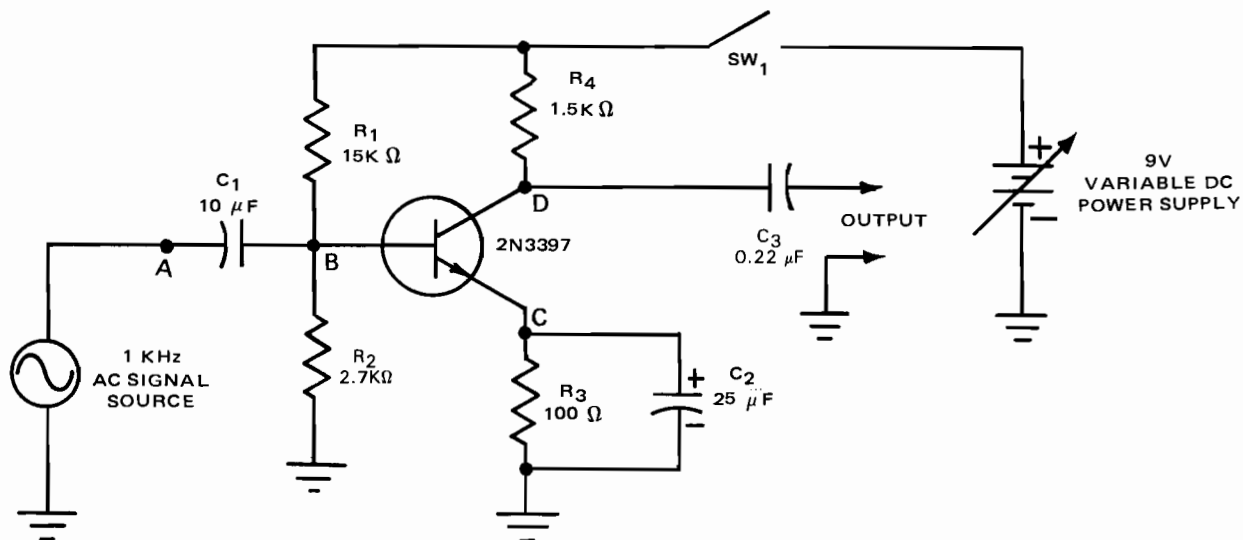

Fig. 16-3-1
1. Build transistor amplifier circuit, Fig. 16-3-1.